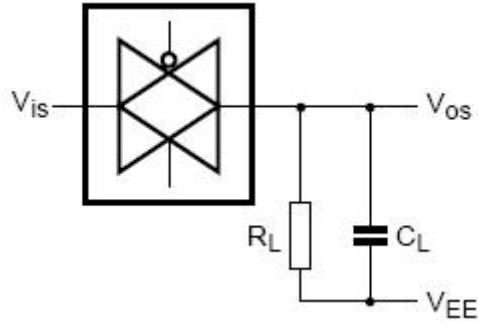

图7、方波失真度、关断频率和导通频率测试图
- 2、 $R_L = 1\text{ k}\Omega$; $C_L = 5\text{ pF}$, 通道关断, $20\log V_{os}/V_{is} = -50\text{ dB}$, 见图7
- 3、 $R_L = 1\text{ k}\Omega$; $C_L = 5\text{ pF}$, 通道开, $20\log V_{os}/V_{is} = -3\text{ dB}$, 见图7